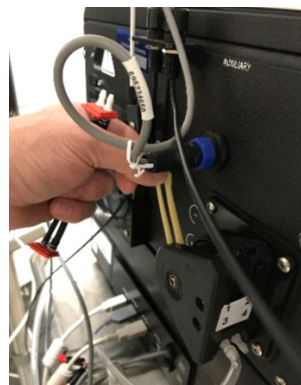

Figure 5-27 Removing the tubing
2. Lift up to remove the peristaltic tubing from the pump, repeat on the bottom (Figure 5-27).